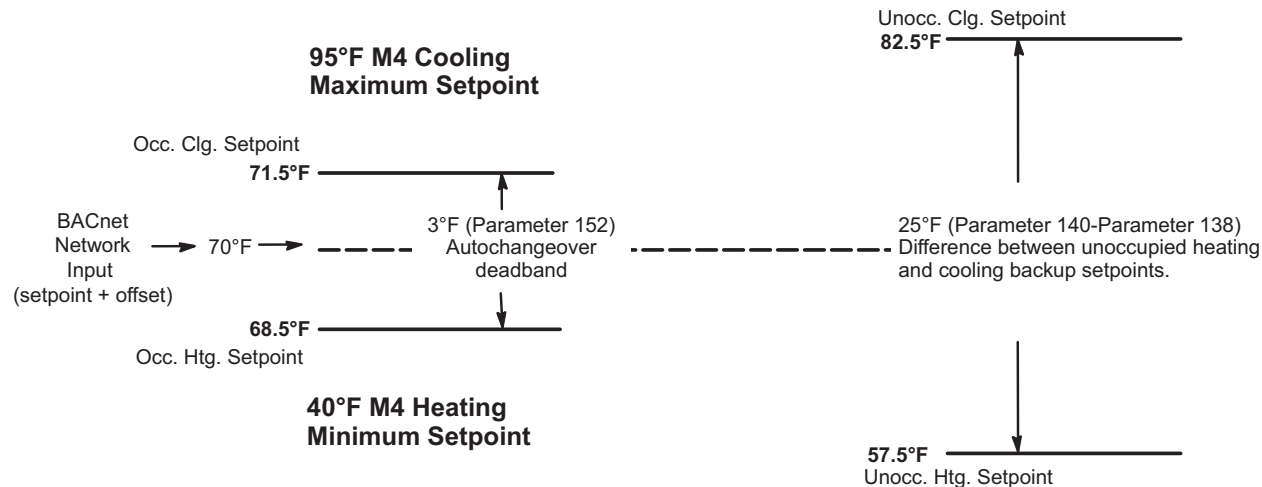

Figure 1. CORE LITE Unit Controller Default Setpoint Example (Room Sensor Installed)
- See “Figure 1. CORE LITE Unit Controller Default Setpoint Example (Room Sensor Installed)” for an example of setpoints when the CORE LITE Unit Controller is operating using parameter default values.